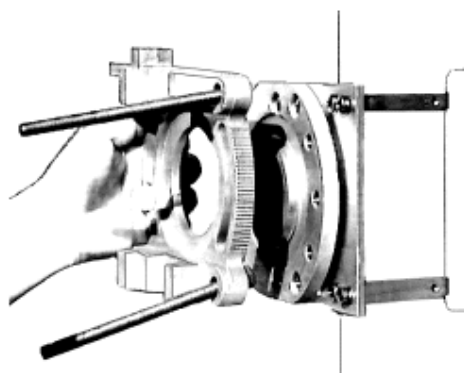

Figure 4-11: Mini-elevation Plate placed on Elevation Plate
10. Place the mini-elevation plate on top of the elevation plate as shown in Figure 4-11. Ensure that the top surfaces of both plates are aligned parallel to each other. This will provide 0° elevation.
6. Place the mini-elevation plate on top of the elevation plate as shown in Figure 4-11. Ensure that the top surfaces of both plates are aligned parallel to each other. This will provide 0° elevation.